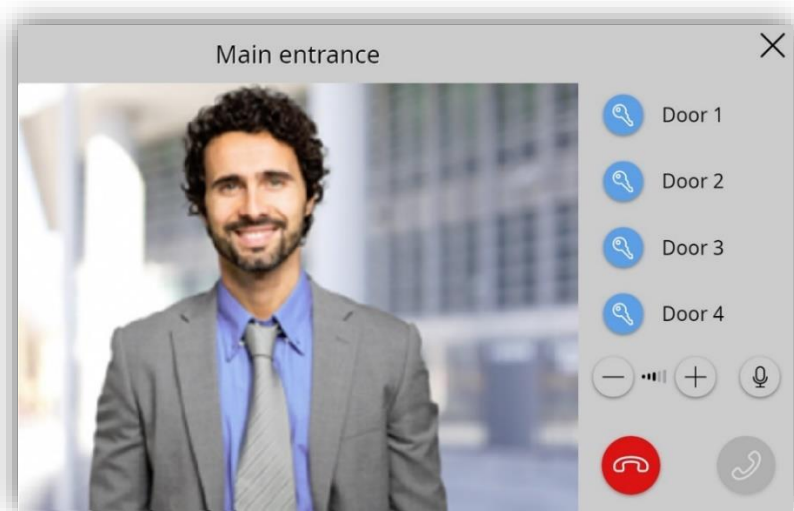

Figure 116. Ongoing call
- **Accept Call:** opens the ongoing call dialog (Figure 116) and notifies others synchronized screens in the same network that the call has been accepted:
When accepting the incoming call, Z70 v2 shows the interface in Figure 116 and starts the voice communication with the GetFace IP.